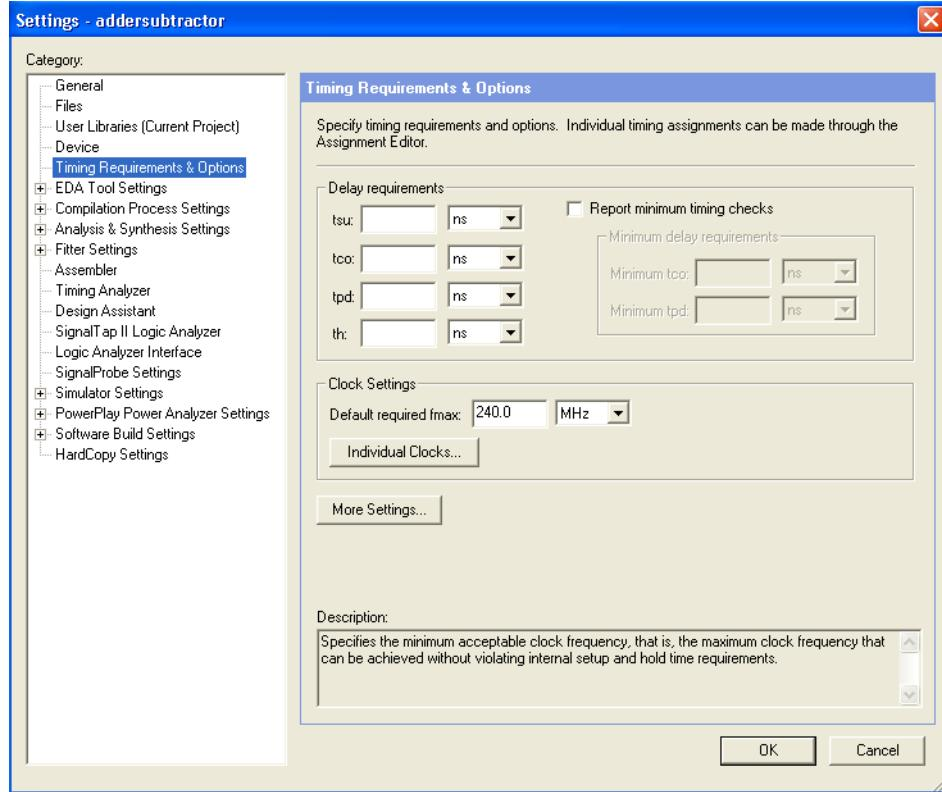

Figure 31: Setting the timing constraints.
1. Click Assignments > Timing Settings to reach the window in Figure 31. Here, it is possible to indicate the required values of various design parameters and the desired performance of the circuit. Consider the *fmax* indicator. So far, we have not specified the desired value of *fmax*. The compilation in Section 4 produced the *fmax* of 217.63 MHz. Suppose that we need a circuit that can operate at a clock frequency of 240 MHz. Specify this value as the default required *fmax* as shown in Figure 31, and click OK. Note that other parameters, such as *t_{su}*, *t_{co}*, and *t_h* can be specified in this window.